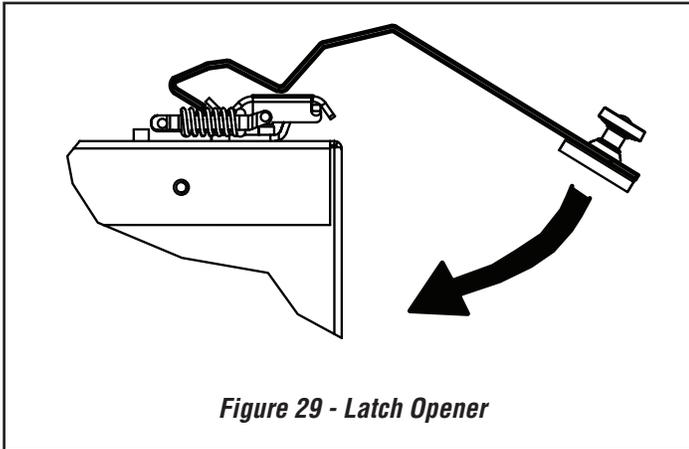

Figure 29 - Latch Opener
3. Hook opener over latch as shown in **Figure 29**, page 32. Swing the bottom of the opener down toward the door. You will not need to pull down.